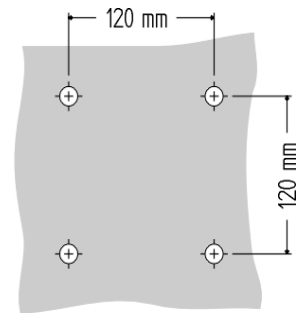

Fig. 8
- Drill four $\varnothing 8$ holes, 45mm deep, in the wall as shown in Fig. 8;